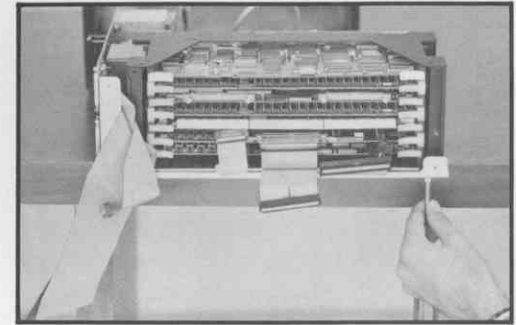

Figure 28 Screw Removal - Front Edge of Chassis
- 4.6** Position the chassis as shown in Figure 28. Be careful that it doesn't tip over the edge of your work surface.